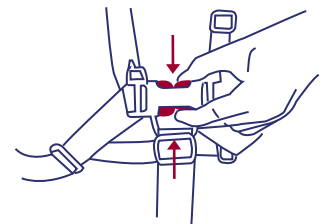

Figure 12d.
- To release, apply pressure to both sides of each male clip until the clip is released. See figure 12d. This process requires a moderate amount of effort so as to prevent an accidental release by your child.